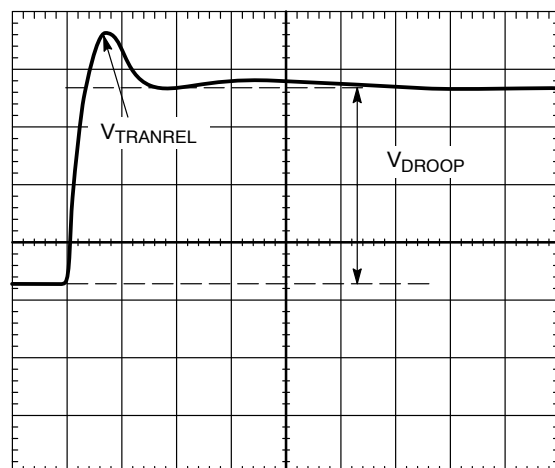

Figure 49. Transient Setting Waveform, Load Release
3. For load release (see Figure 49), if $V_{TRANREL}$ is larger than the value specified by IMVP-6+, a greater percentage of output capacitance is needed. Either increase the capacitance directly or decrease the inductor values. (If inductors are changed, however, it will be necessary to redesign the circuit using the information from the spreadsheet and to repeat all tuning guide procedures).